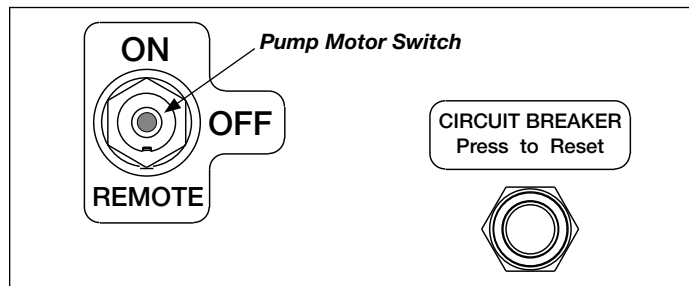

Figure 9, Pump Control Panel
5.2 Pump Motor Switch (See Figure 9)